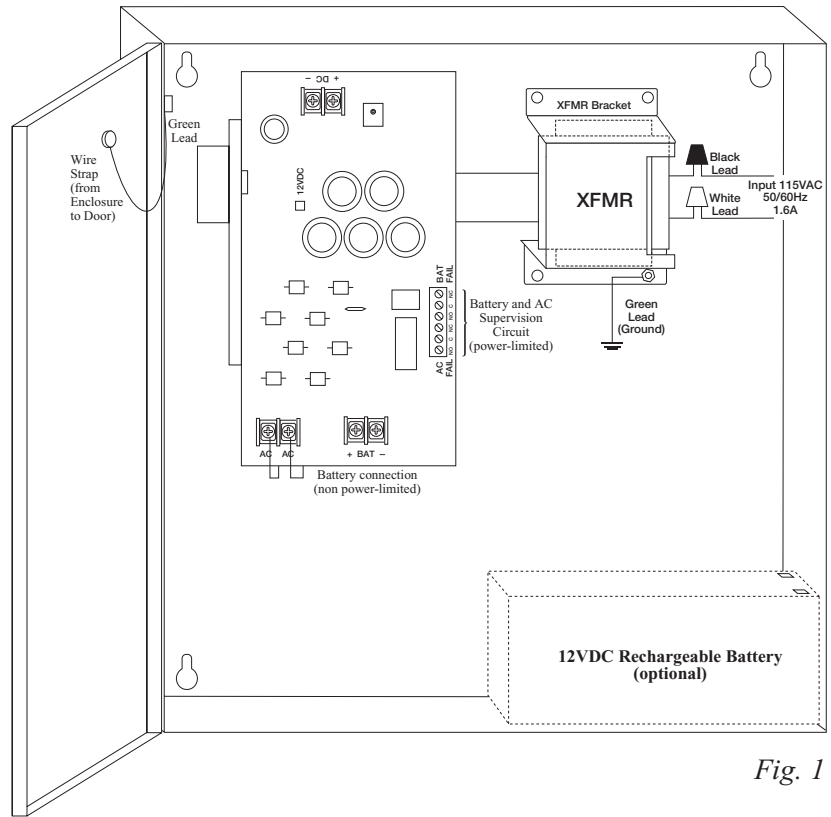

Fig. 1
2. Connect AC power to the black and white flying leads of the transformer (Fig. 1). Connect green lead to the earth ground. Use 18 AWG or larger for all power connections (Battery, DC output).
4. Connect devices to be powered to the terminals marked [+ DC -] (Fig. 1).
5. Connect battery to the terminals marked [+ BAT -] on the unit (battery leads included) (Fig. 1).